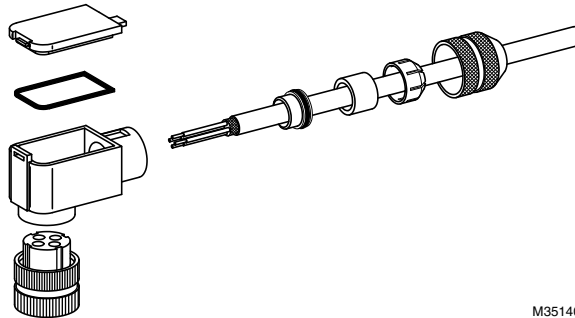

Fig. 7. ASY786 Viewing Head Plug Assembly with C330S.
Connection of the Honeywell type C330S cable to the viewing head plug is shown in Fig. 7. Cable preparation should be done as follows:
2. Assemble the field-wireable plug as shown in Fig. 7. Ensure that: